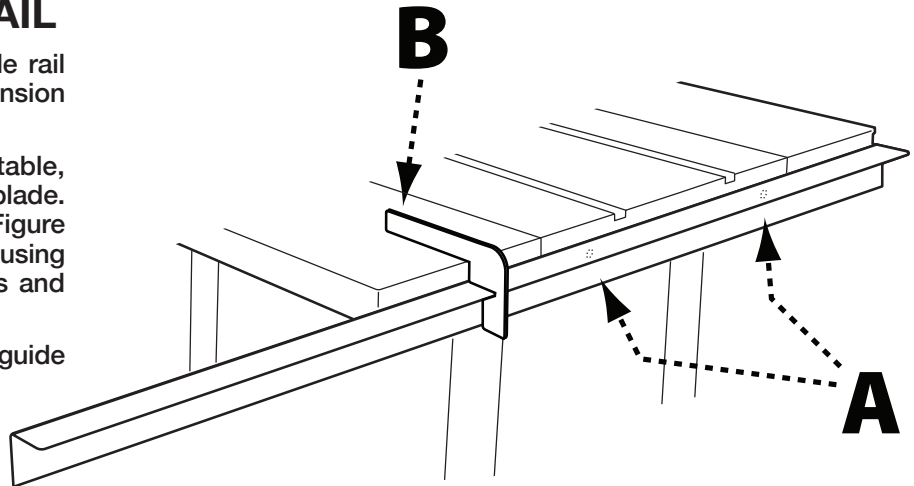

FIGURE 4
1. Align the right edge of the rear guide rail with the right edge of the right extension wing, see Figure 4.
2. Locate the holes in the rear of the table, spaced 8 inches right and left of the blade. Align guide rail holes (A) shown in Figure 4, with those in the table and secure using the appropriate bolt/screws, washers and nuts.
3. Use the gauge (B) to ensure the rear guide rail is parallel with the table.